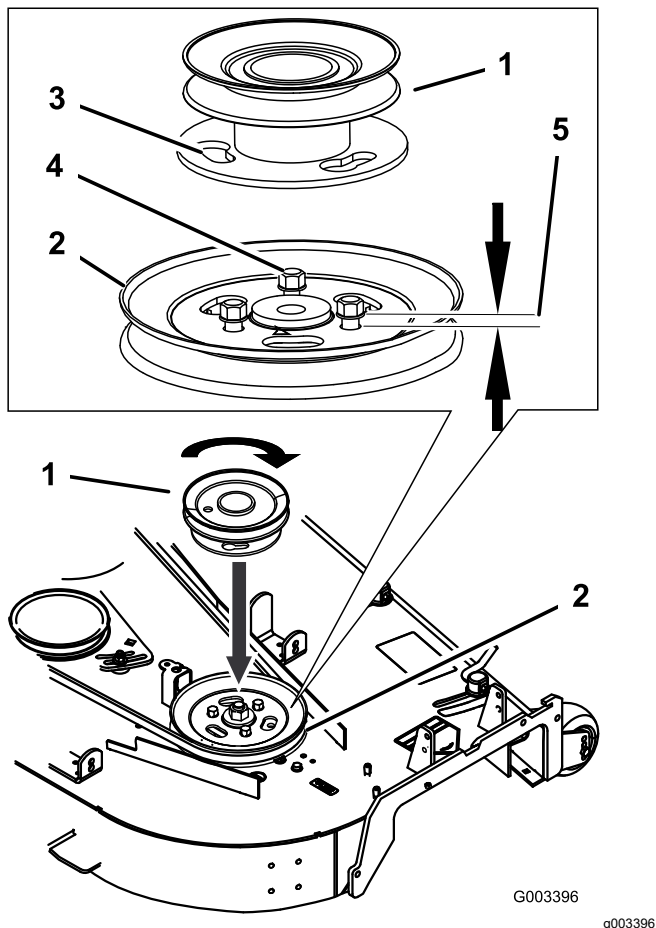

Figure 11
1. Loosen, but do not remove, the tapping bolts on the existing mower-deck pulley (Figure 11).
2. Align the new pulley assembly so that the openings fit over the pulley bolt heads (Figure 11).
3. Turn the pulley to lock it into position (Figure 11).